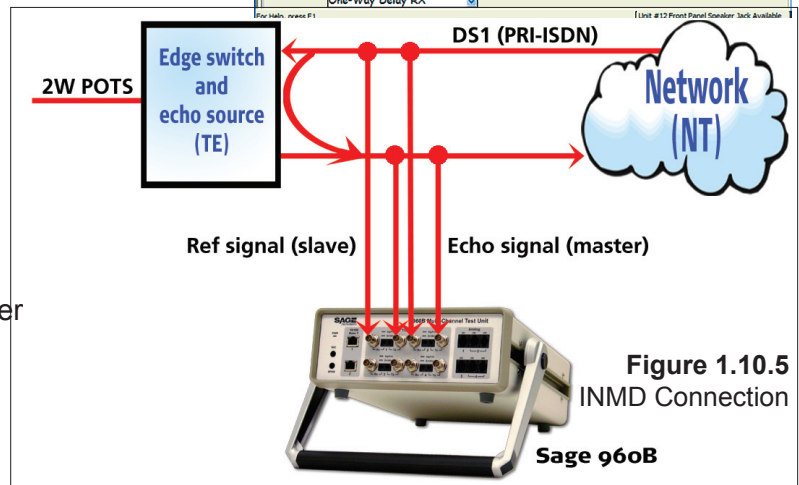

Figure 1.10.5
When using INMD, a user should connect Sage's 960 to the network as shown in figure 1.10.5.
3. If the DS1 lines being monitored are PRI-ISDN lines, then the D-channel must be specified correctly when performing the span configuration in order for INMD to intercept the source and destination phone numbers associated with the DS0 channel(s) being monitored. If one is also interested in decoding all the ISDN call messages, one should also specify the TE and NT modes correctly. As in "TERMINATE" mode, the 960B DS1 span should be set to match the incoming NT or TE mode. For example, as shown in Figure 1.10.5, if the signal goes into the receiving port of 1 is from the NT equipment, then 960B's PCM1 must be set to TE mode. Internally, 2 will automatically be set to NT mode to match the signal from the TE equipment.